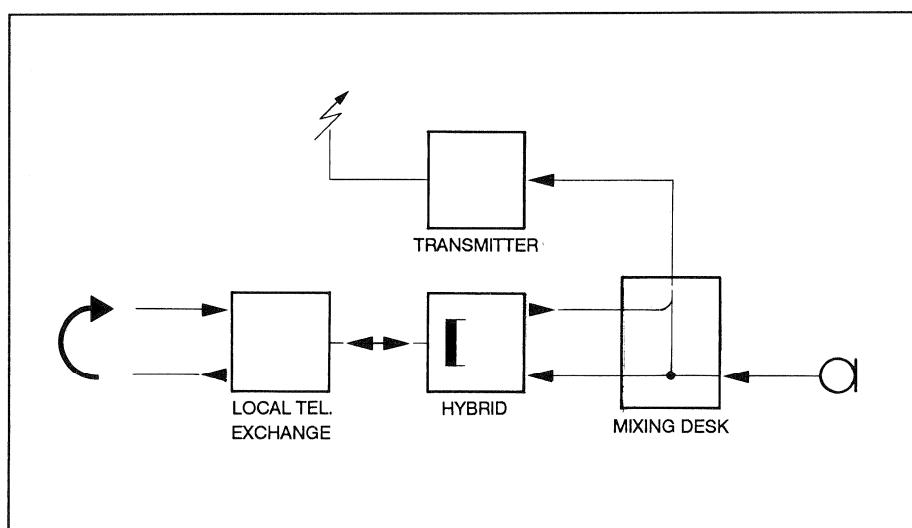

Fig. 5c      Echoes from the telephone line
- Coloration of the moderator's voice by line echo (see Fig. 5c).